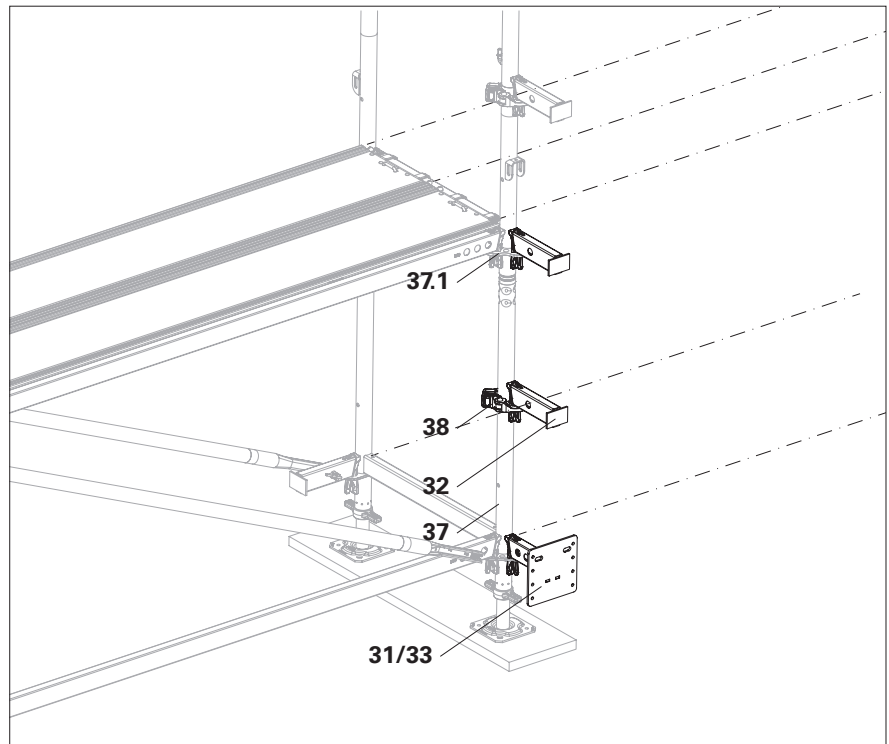

Fig. C4.04
2. Remaining area below the panel: Mount Multi-console Bracket CEB (**33**) to Horizontal Ledger UH-2 25 (**31**) to standard (**37**). (Fig. C4.04)